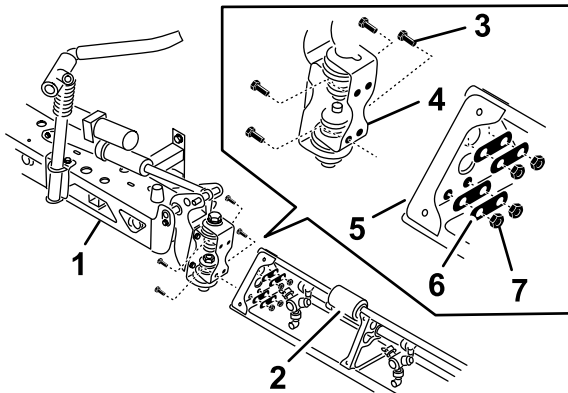

Figure 38
2. Rotate each pivot bracket at the end of the center boom section so that the brackets align vertically (Figure 38).
4. Assemble hinge plate to the triangular plate using 4 flange-head bolts, 4 backing plates, and 4 flange locknuts (Figure 38), that you removed in step 1.
6. Align the rod end of the boom lift cylinder with the holes in the horn of the pivot bracket (Figure 38).
7. Secure the rod end to the pivot bracket with a clevis pin and a hairpin (Figure 38).